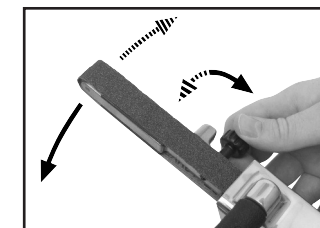

Fig. 14
1. With the tool running, rotate the thumb wheel on the contact arm slowly up or down (See fig. 14) until the sanding belt rides evenly over the contact arm. The contact arm can move 5° in either direction. **Be careful not to unscrew the thumb wheel completely.**